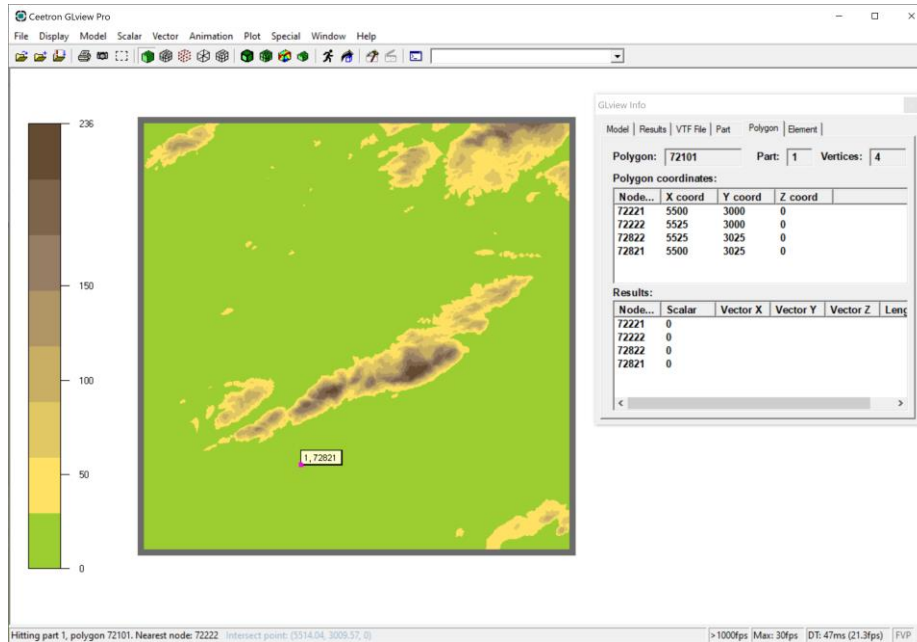

Figure 18 – Displaying cell (polygon) properties in GLview
**NOTE:** If you want to reduce the extension of the model, that is resetting the X- and Y-range of the properties given in Figure 15, then it is convenient to use the visualization tool GLview. You open GLview by clicking “3D” while Extension is displayed in the report, see figure 18.
*Polygon info...*” and the output would be similar to Figure 18. In Figure 18 a cell with coordinates (5500,3000) have been selected. Hence adding 5500 meters to the X-min value of the X-range and 3000 meters to the Y-min of the Y-range will establish a model with the selected point as the lower left corner.